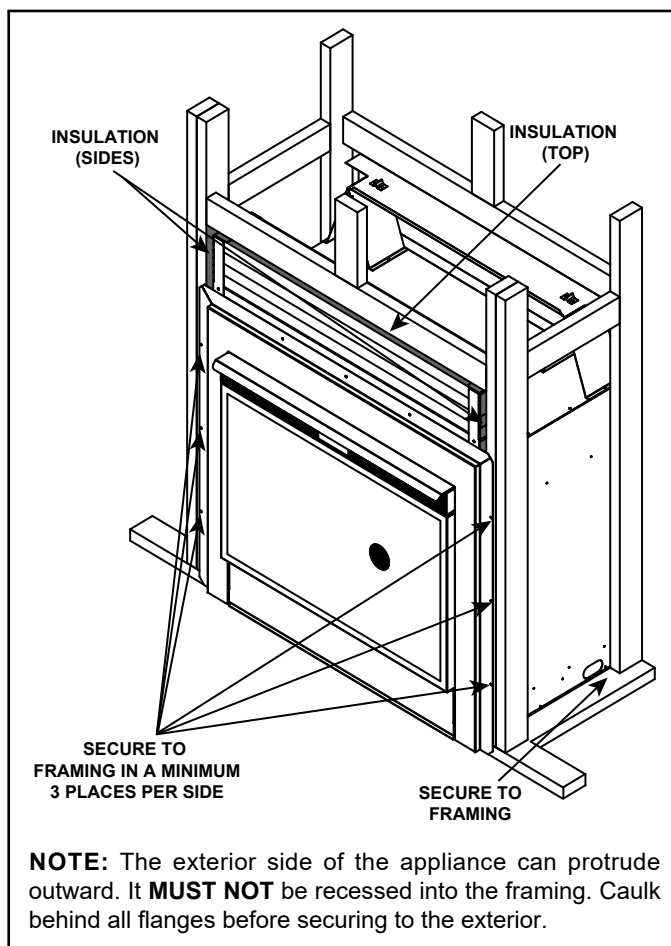

Figure 5.2 Proper Positioning, Leveling and Securing of an Appliance
- Place the insulation material on the top (two pieces) and sides (one piece per side) of the appliance, between the appliance and the framing studs. See Figure 5.2.
The diagram shows how to properly position, level, and secure the appliance. See Figure 5.2. Nailing tabs are provided to secure the appliance to the framing members.